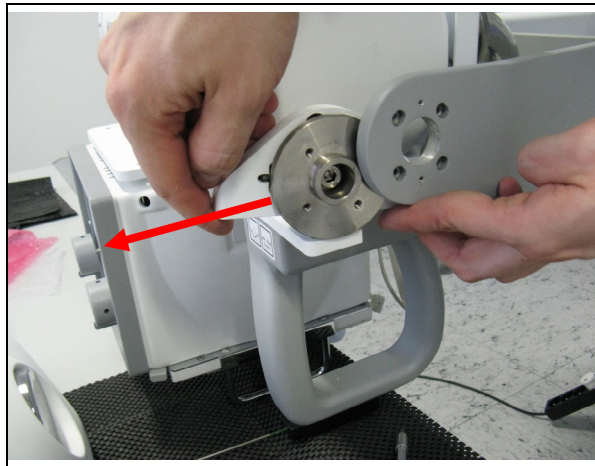

Figure 12
- (6) Slide the rotation kit out of the holder. See direction of arrow in Figure 12.